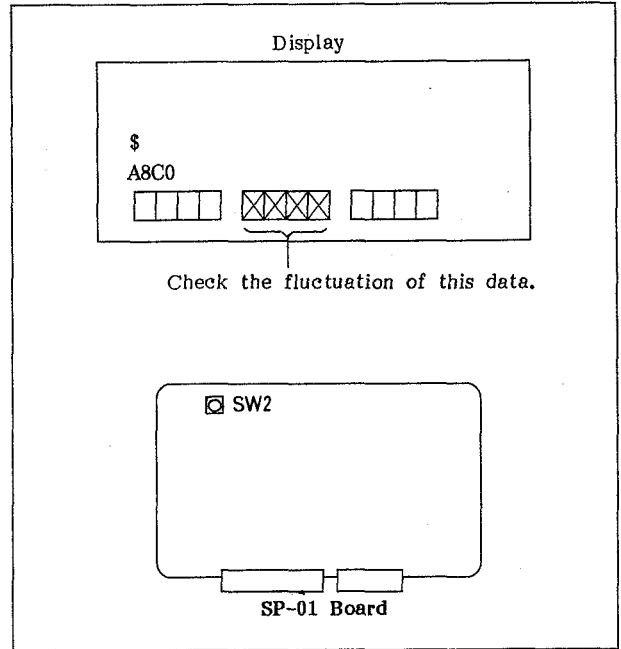

Fig. 9-10 Tape Speed Adjustment
2. Press the **TEST**, the **F3** (CHECKER), the **F1** (CONTINUE), **F3** (C), the **F2** (B), the **SET**, the **F7** (\$), and the **SET** keys on the control panel in that order.
3. Adjust the value indicated at the place on the display of the upper portion of Fig. 9-10 marked by X by using the **<** or **>** key so that it fluctuates around 0000.